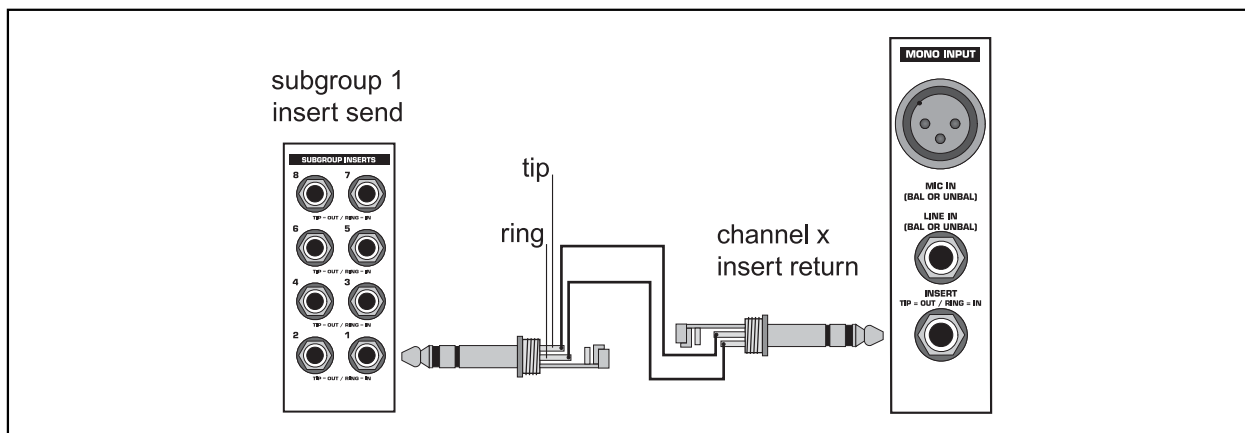

Fig. 5.3: Making use of the channel EQ for shaping subgroup-signal by applying inserts
-  EURODESK insert points are, of course, simultaneously inputs and outputs. For goodness sake, get them onto a patchbay, where they can appear as independent sockets, and do away with all these fiddly Y-teads that always seem to be the first to get knotted in the flightcase (see section 9: “PATCHBAY”). Now it is possible to do the incredibly useful patch shown in fig. 5.3 without having to make up what would amount to a ring-to-tip, tip-to-ring stereo patch lead.